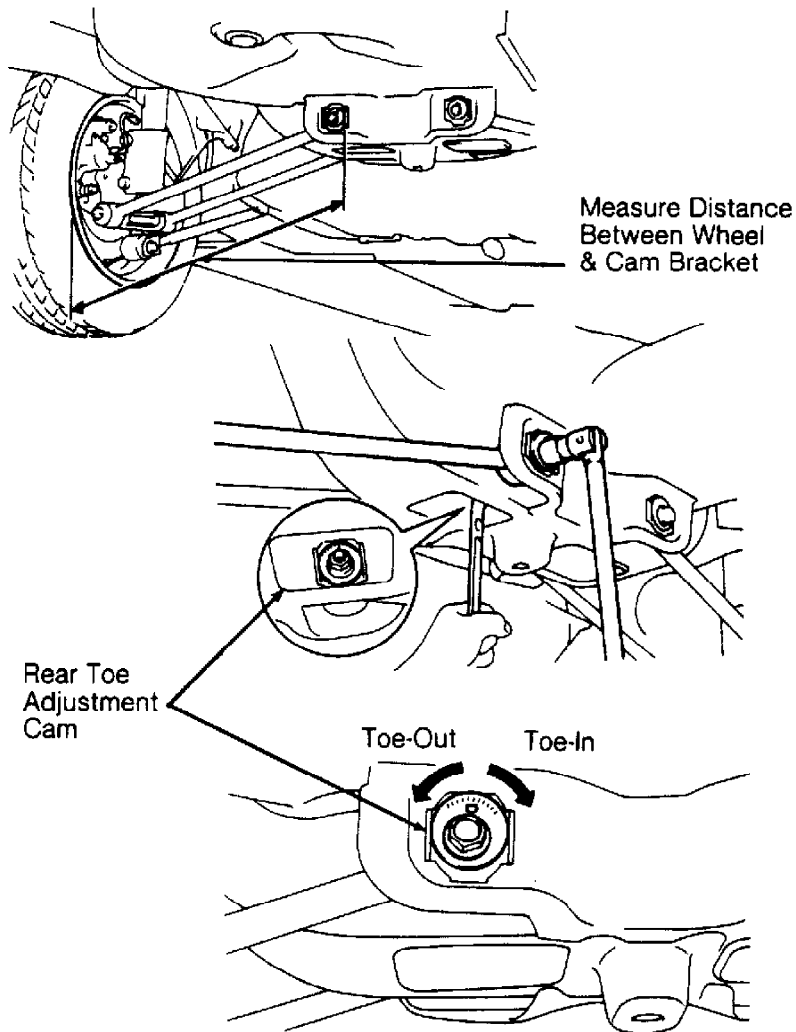

Fig. 1: Adjusting Rear Toe-In
2) Bounce both ends of vehicle several times to settle suspension. On Celica, measure distance between each wheel rim and corner of cam bracket. See Fig. 1. Ensure both distances are the same.